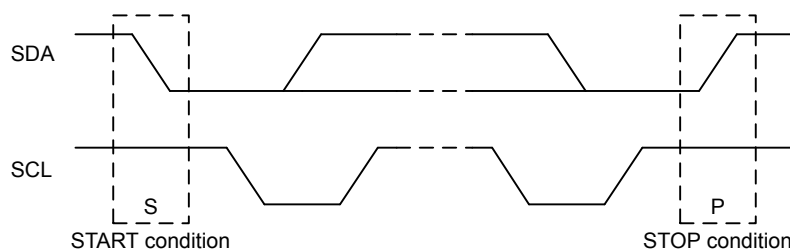

Figure 18.4. I²C START and STOP Conditions
START and STOP conditions are used to initiate and stop transactions on the I²C-bus. All transactions on the bus begin with a START condition (S) and end with a STOP condition (P). As shown in Figure 18.4 I²C START and STOP Conditions on page 518, a START condition is generated by pulling the SDA line low while SCL is high, and a STOP condition is generated by pulling the SDA line high while SCL is high.